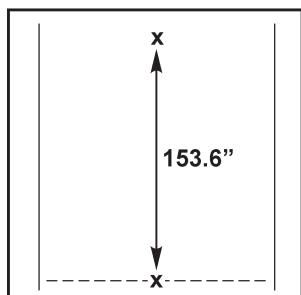
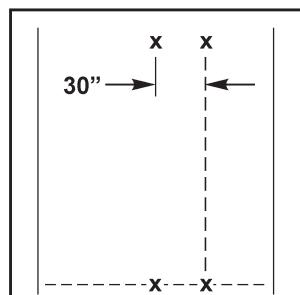
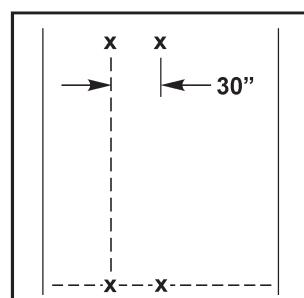

Figure 19
Figure 20
Figure 27
- Find and mark the center of the lane at the base and 153.6 inches above the base (see Figure 19).
- Measure 30 inches to the RIGHT of each center point in Figure 19 and snap a vertical chalk line (see Figure 20).
- Measure and mark 30 inches to the LEFT of each center mark in Figure 19 and snap a vertical chalk line (see Figure 27).